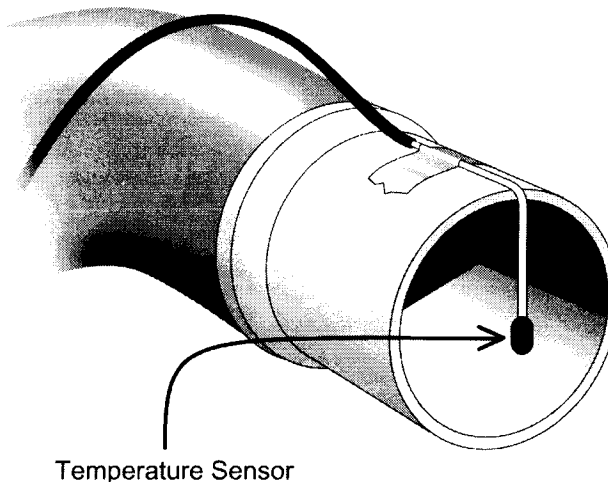

Figure 6 Delivery hose outlet showing temperature sensor position
4	<p>The temperature control system is verified as follows:</p> <ul style="list-style-type: none"> • Ensure the delivery hose cover is undamaged and that it covers the entire hose. • Ensure that the environmental conditions are 20°C to 22°C, 30% to 70% relative humidity, non-condensing. • Place the digital thermometer sensor in the centre of the delivery hose outlet as shown in Figure 6. • Check that the temperature of delivered air stabilises within five (5) minutes following a change in set temperature. • Check that the temperature of delivered air corresponds with the set temperature to within $\pm 2^{\circ}\text{C}$. • Note that some variation between the set temperature and temperature of delivered air is possible because of heat loss that occurs in the delivery hose. The magnitude of the heat loss will depend on the ambient temperature and the degree to which the hose is longitudinally compressed or extended.
4	Place the digital thermometer sensor in the centre of the delivery hose outlet as shown in Figure 6 above.